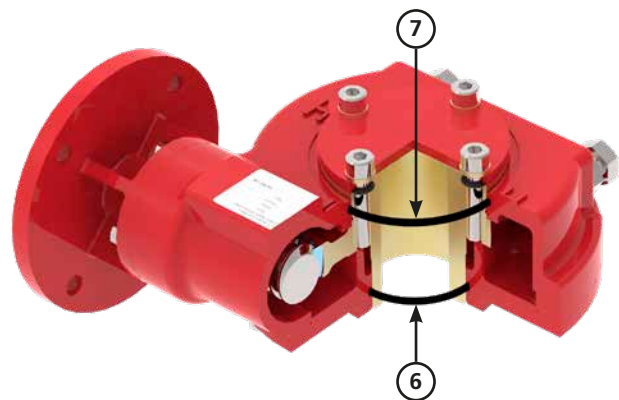

Fig. 3 - O-Ring Inspection
Referring to Fig. 3, O-rings (6) and (7) are to be inspected for damage, greased and properly seated before re-fitting the output sleeve. If the O-ring is damaged then it should be replaced prior to fitting the output sleeve.